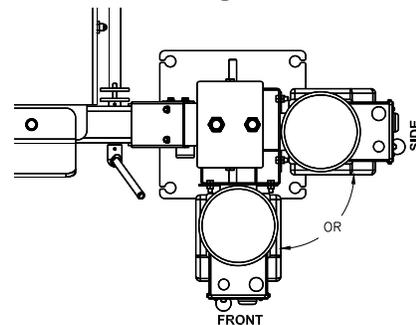

Fig 15 – Power Unit
- 32) Install the Power Unit to the column using the supplied M8x20mm bolts and M8 nuts. The power unit can be installed on either the front or side of the power column to suit install location, shown in **Fig 15**.